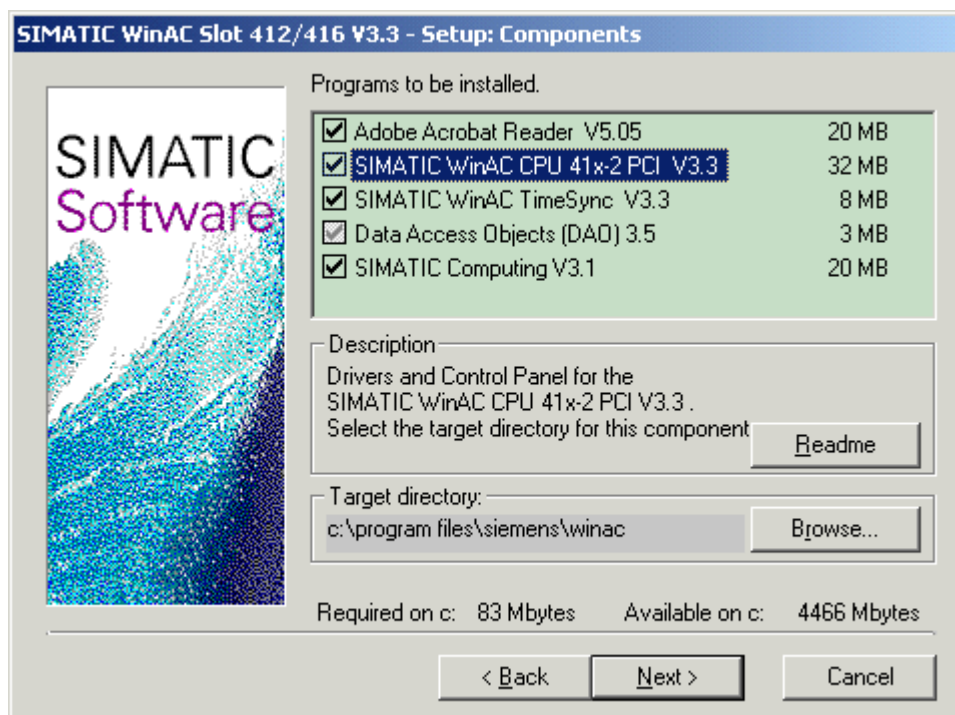

Figure 3-1 Installing the Components of WinAC Slot 41xx
3. Follow the instructions until Figure 3-1 is displayed.